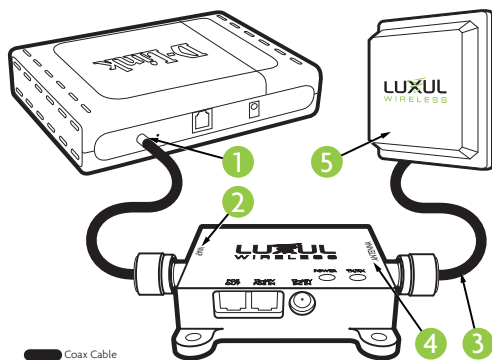

Figure 2 — Coax Cable
Using the supplied N-Male to RP-SMA-Male coax cable, connect the Shock-WAV Wi-Fi Signal Booster to your DWL-2100AP's Antenna port . (Figure 2) ①. Be sure to connect the cable to the side of the Signal Booster labeled WAP ②. Next use the included N-Male to N-Male cable ③ connect the Shock-WAV Wi-Fi Signal Booster to the X-WAV XW-24-FP7 antenna ⑤. Be sure to connect the cable to the side of the Signal Booster labeled Antenna ④.